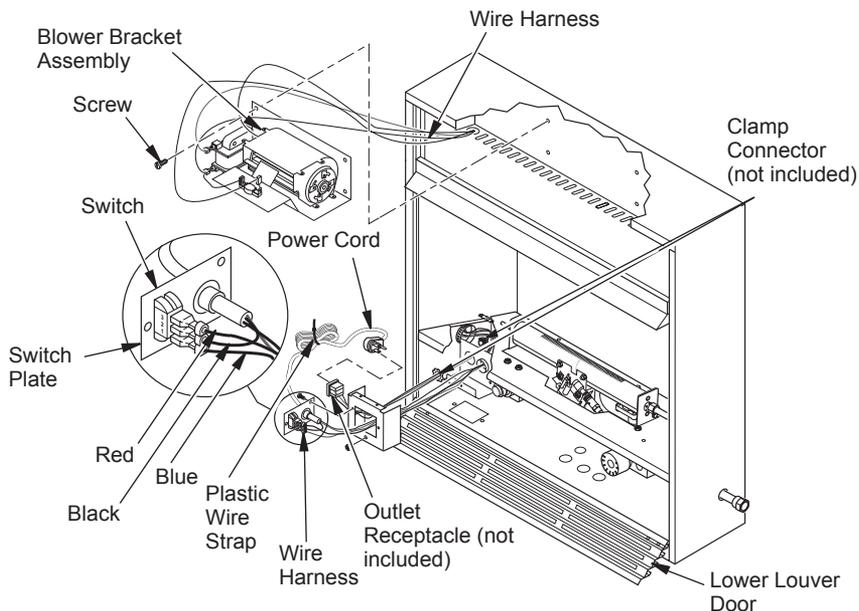

Figure 20 - Installing Blower (Thermostat Unit Shown)
- Plug power cord to the outlet receptacle (not provided) as shown in Figure 20, page 17. Wind extra cable of power cord and tie it up with the plastic wire strap (see Figure 20, page 17). Set the cable bundle between the fan switch box and outer casing, away from the burner.